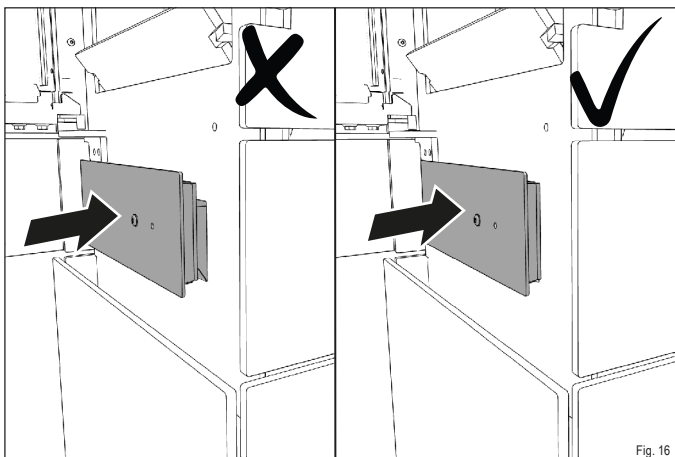

Fig. 16
- ✓ **Slide the ash drawer back into the opening so it is flush with the seal (Fig. 16).**